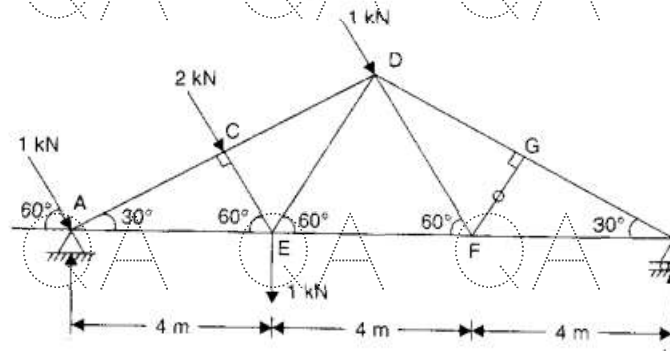

Figure 1
2. Determine the forces in the truss shown in the below figure 1. Which is subjected to inclined loads? [10]